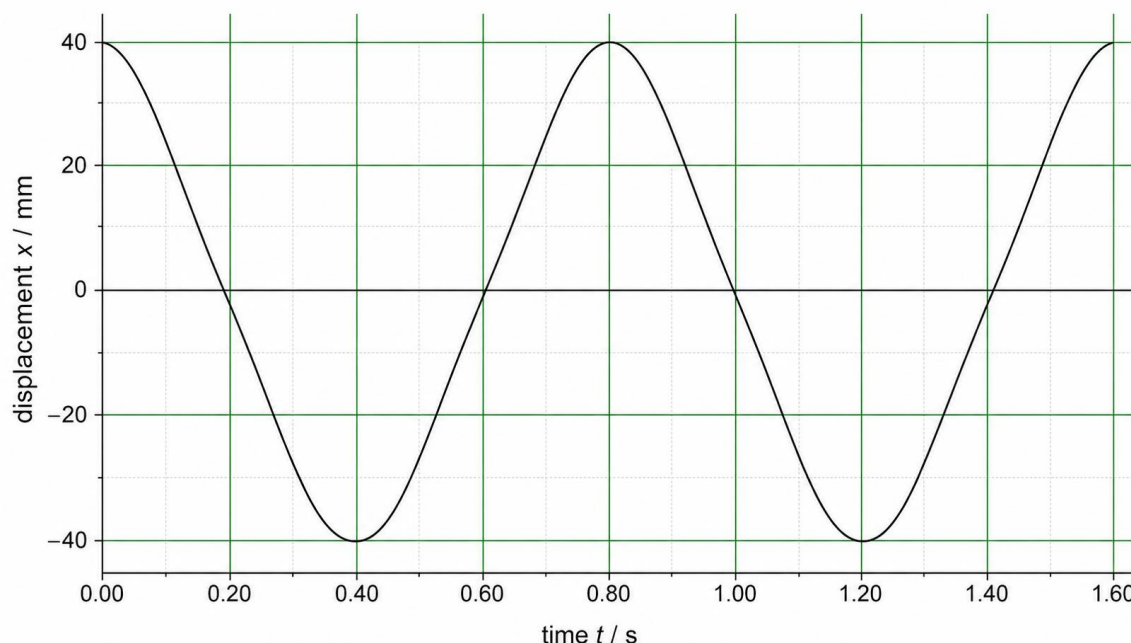

Figure 2: displacement-time record for the free calibration run
3. Figure 2 is the displacement-time record from the calibration run. (a) Determine the amplitude and period. (b) The positive direction is to the right. Use the gradient of the graph to state the direction of the piston velocity at $t = 0.300$ s. [3 marks]